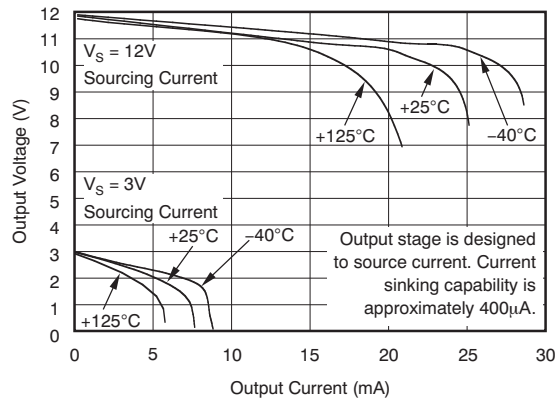

Figure 7. Positive Output Voltage Swing vs Output Current
(1) Total output error includes effects of gain error and V_{OS}.
(2) For details on this region of operation, see the Accuracy Variations as a Result of V_{SENSE} and Common-Mode Voltage section.
(3) See Typical Characteristic curve Output Swing vs Output Current, Figure 7.
(4) Specified by design.